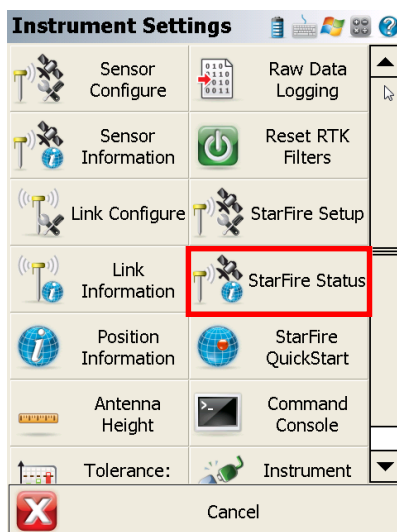

Figure 44: Instrument Settings/StarFire Status
5. On the **Instrument Settings** dialog (refer to Figure 44), select **StarFire Status**.